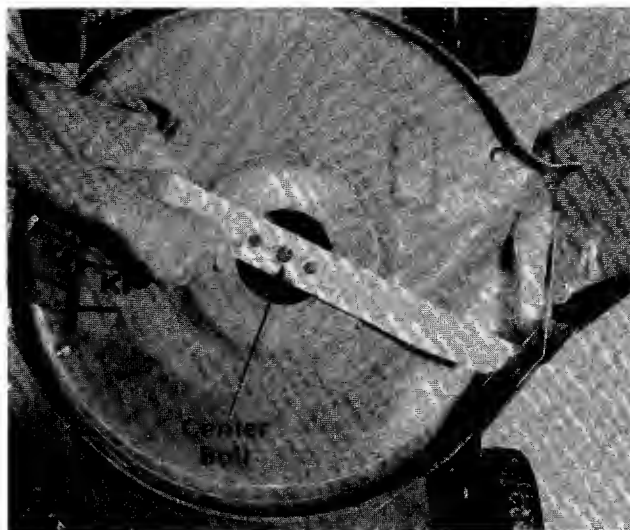

FIGURE 23.
3. Remove the center bolt on the blade and slide off the blade and adapter. See figure 23.